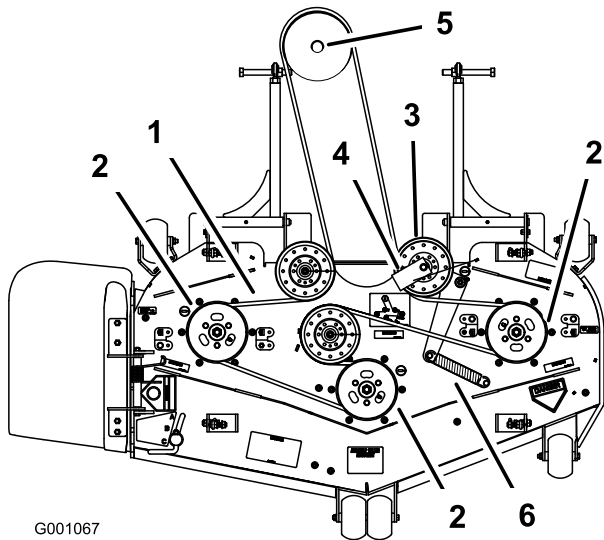

Figure 68
- Install the new belt around the mower pulleys and the gearbox pulley under the engine (Figure 68).
- Install the belt guide on the spring loaded idler at a 45 degree angle as shown in Figure 68.
- Install the idler spring to the 2 posts (Figure 68).